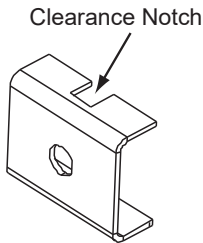

Figure 22.3
8. Each clip has a clearance notch to allow room for the cast on the insert. Place the clip so the notch is facing the outer edges of the surrounds (**Figure 22.3**).